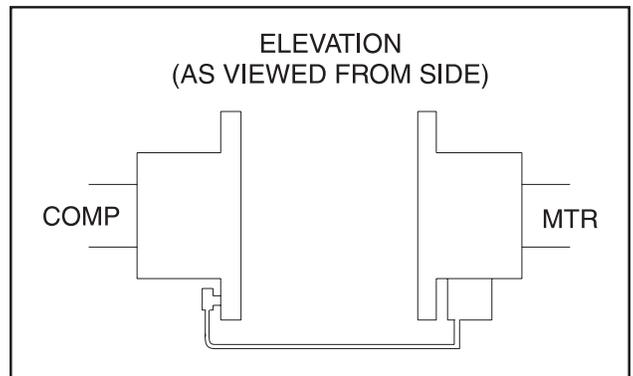

Figure 4 - Dial Indicator at 6 O'clock
4. Rotate both coupling hubs together 180° (6 o'clock position), as shown in Figure 4. At this position the dial indicator will show TOTAL angular misalignment.